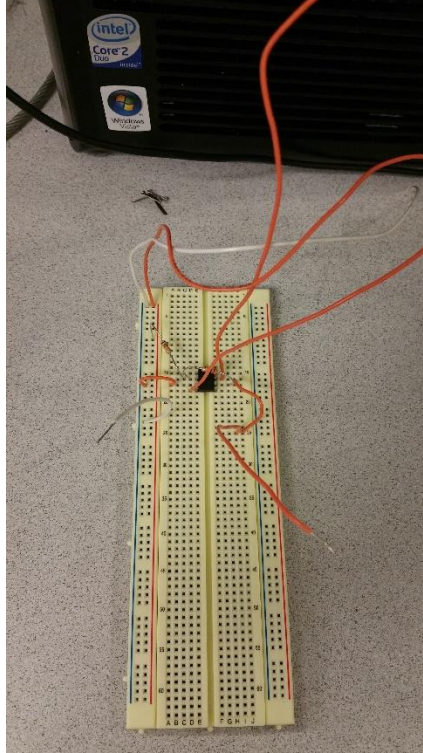

Figure 2: Inverted amplifier
2. I built the following circuit, Figure 2, neatly and clearly with the verification of the instructor Armando.